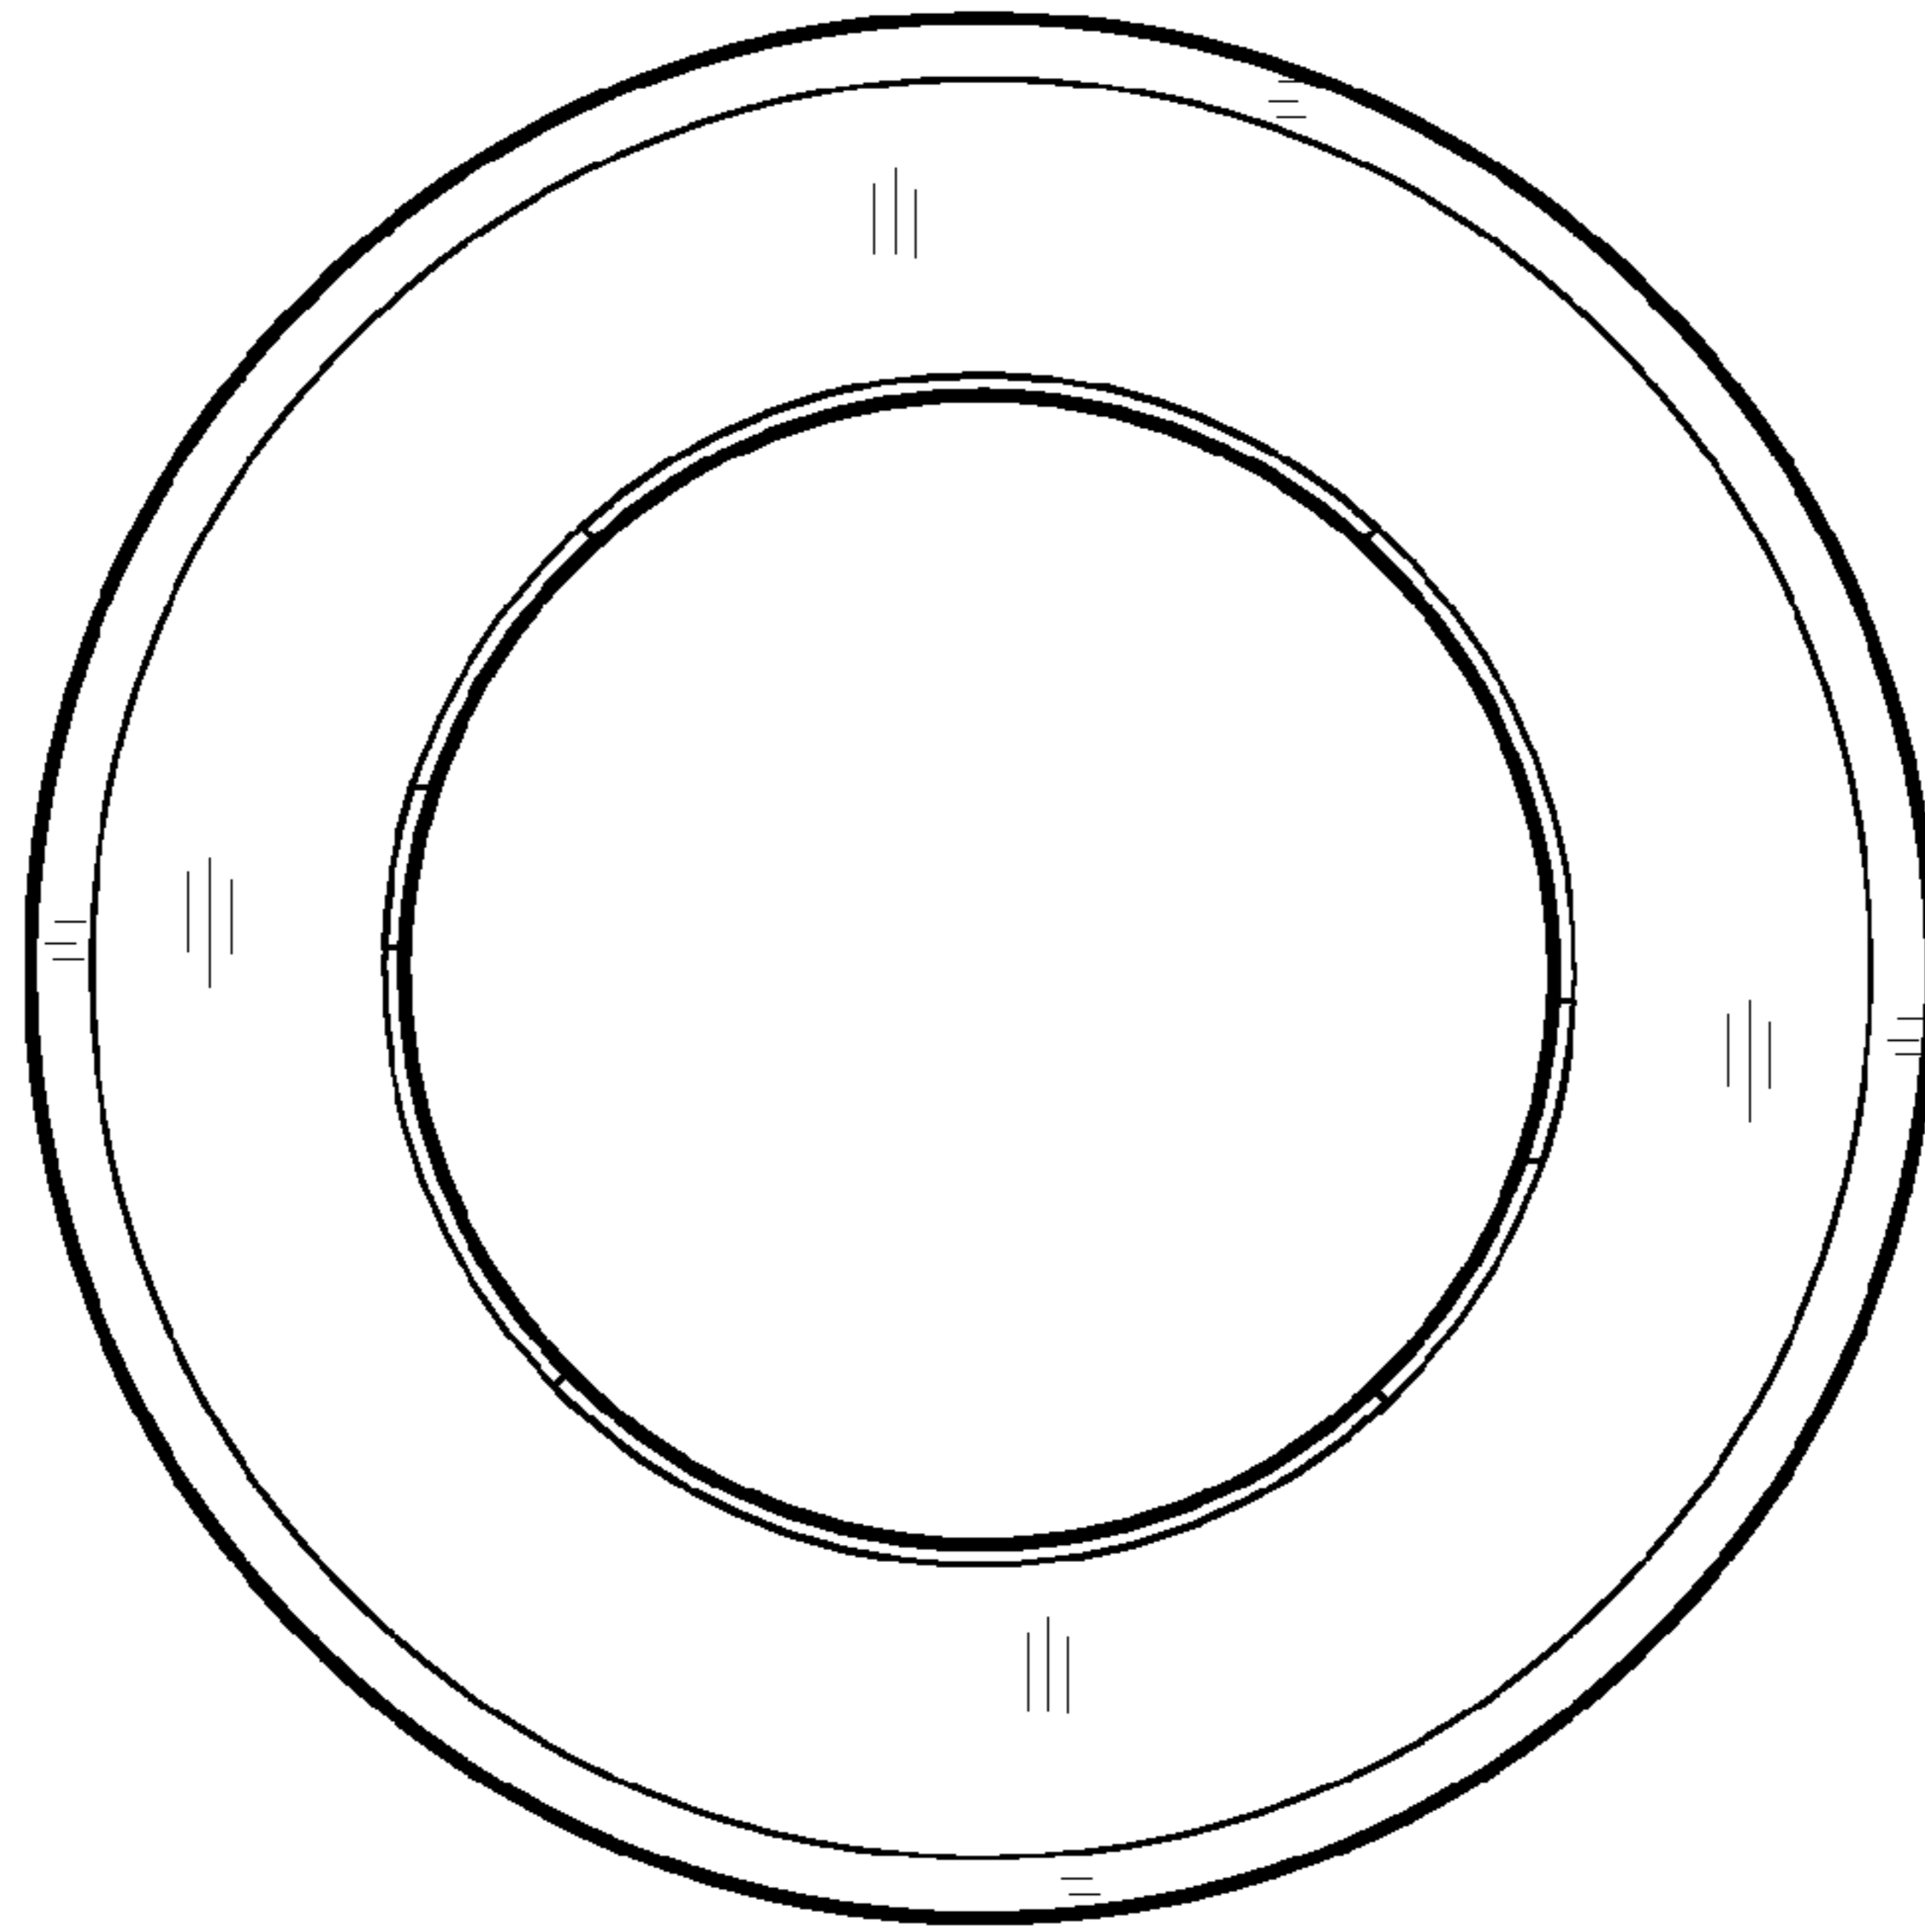

FIG. 12
- FIG. 12 is a plan view showing the trim from the bottom;